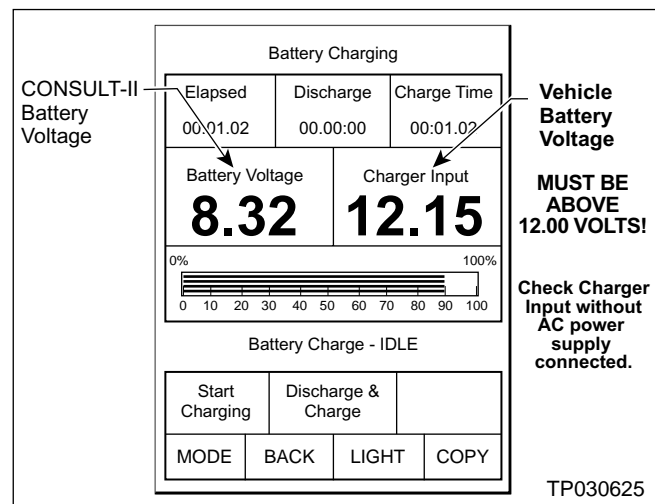

Figure 5
2. Check the CONSULT-II's "Charger Input" reading (see Figure 5).